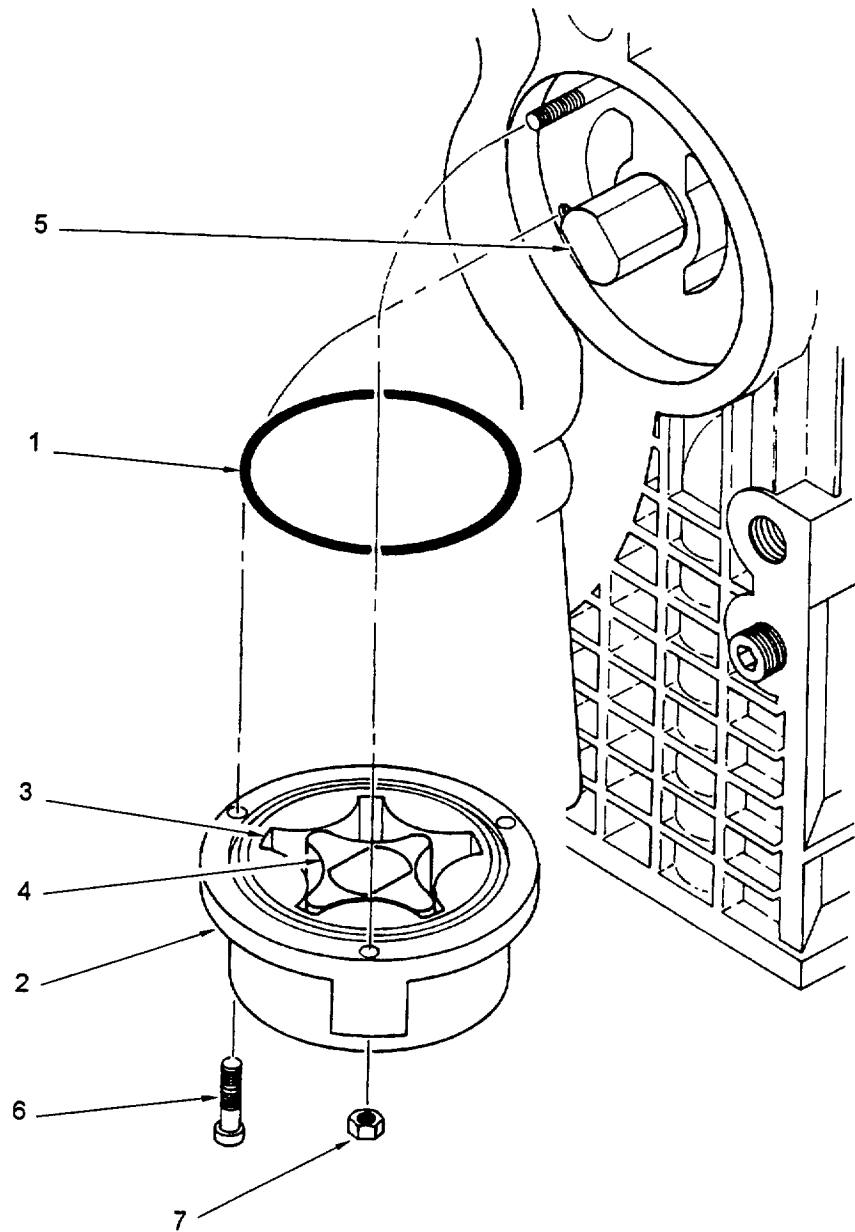

Figure 6-33. Oil Pump Installation
6.4.9 Install Oil Pump. (Refer to figure 6-33.)